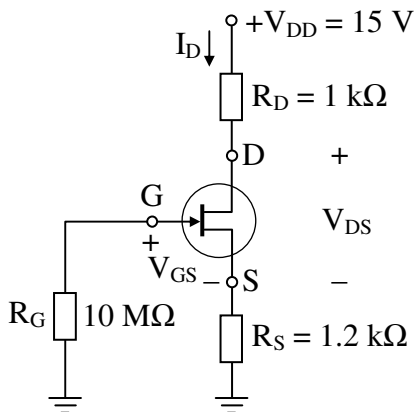

Fig. 7.8 Self-bias circuit
1. Construct the network of Fig. 7.8. Insert the measured value of R_D and R_S .